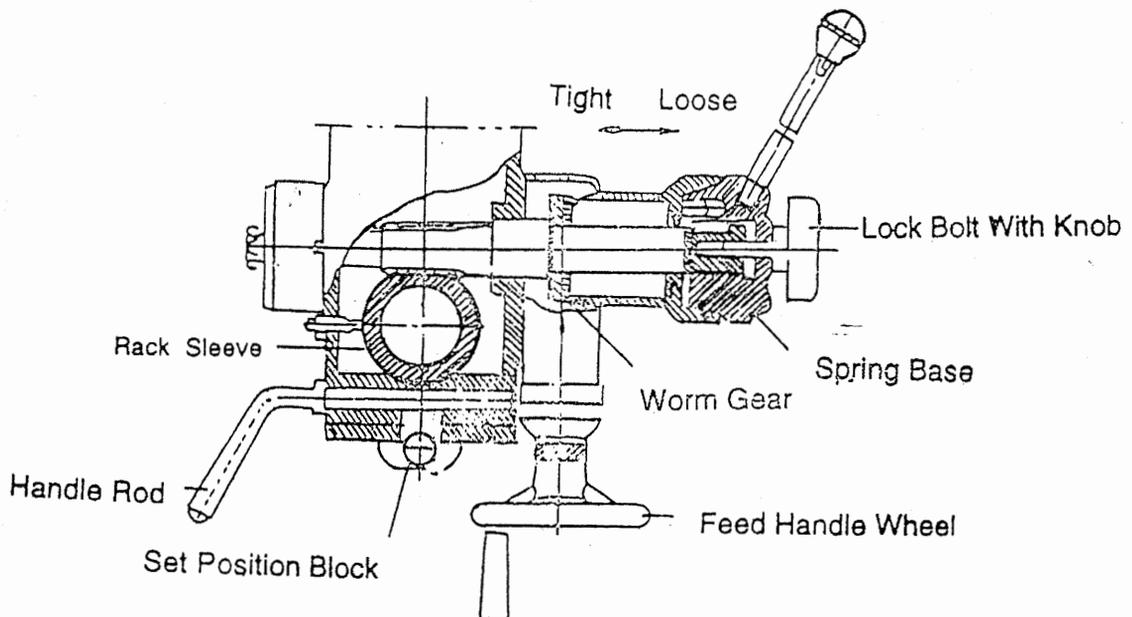

Figure 2
(4) Preparing for Drilling (see fig. 2) (Except addition power feed system).
(5) Preparing for Milling (see fig. 2) (Except addition power feed system):